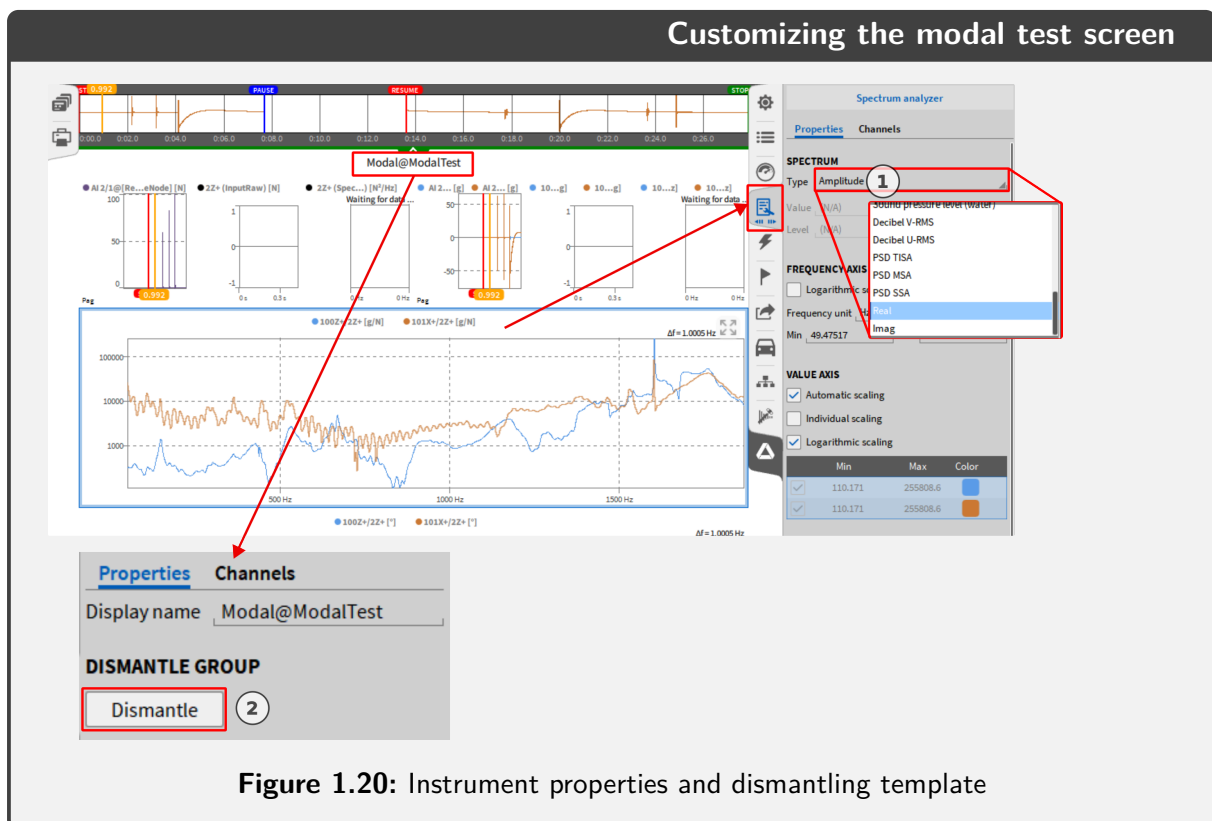

Figure 1.20: Instrument properties and dismantling template
A standard measurement procedure proceeds as follows: The trigger button (2) is active by default. If not, set the button to active and excite the test object. As a result, the bar indicator (7) should be filled, in this case, three times with a green color. To repeat an excitation event and discard the last one, the (Reject last) button (3) can be used. To switch to previous excitation groups, the desired excitation group (6) can be clicked to set it as the active group and display its data. To further analyze the data, a single FRF can be displayed in the amplitude response (14) by clicking (4). Furthermore, the MIF can be added to the coherence spectrum (16) by clicking (5). For more details about the MIF calculation go to formula 2.8 and for the Coherence calculation, to formula 2.6 and formula 2.7. Each instrument can be modified to change the displayed data, for example, the amplitude response can be set to display the real or imaginary part instead. Just click on the instrument to be edited and click the instrument properties tab seen in the next figure 1.20 (1) to choose the desired data. For more information on the spectrum analyzer, see the OXYGEN manual: <https://ccc.dewetron.com/pl/oxygen>.